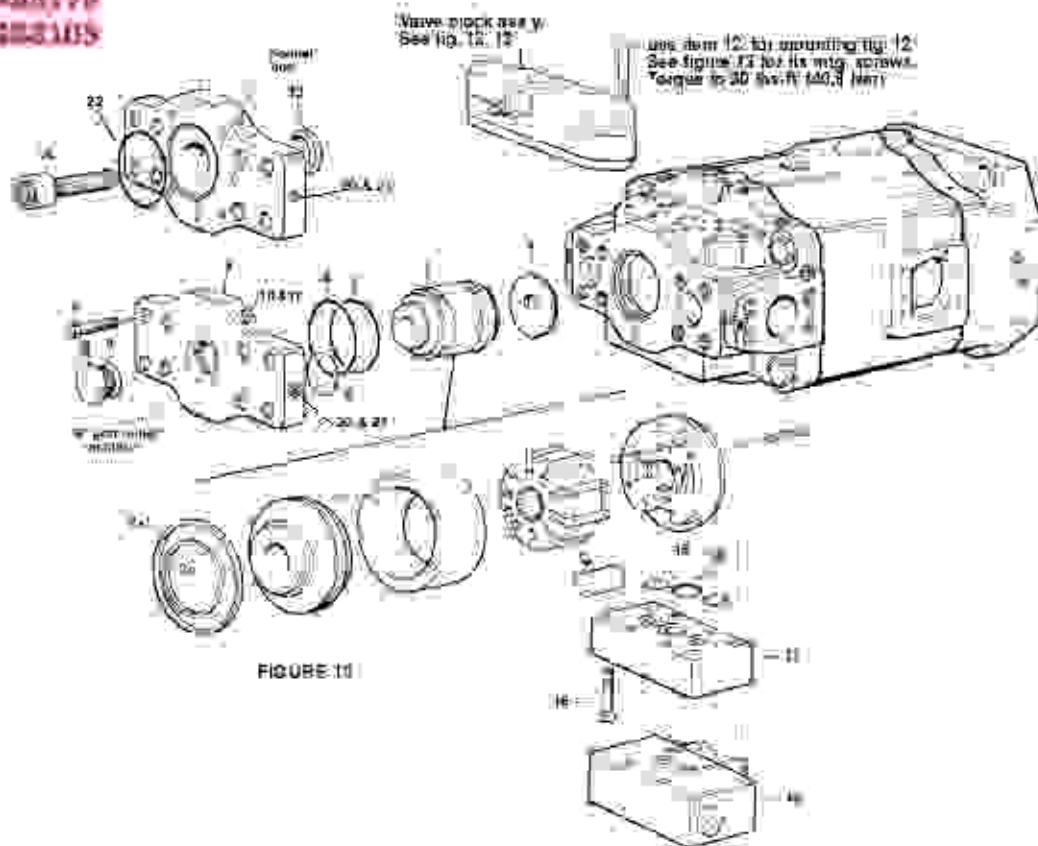

FIGURE 10
See figure 9 & 10. Use special tool T2 and improve an auxiliary shaft and engage the holes in the hold-down adjusting screw (8), figure 10. Carefully tighten until screw bottoms out.
Use a large screw driver with the sides of the blade ground down so it passes along side the aux. shaft and engaged the screw slot. Thread hold-down adjusting screw (8) (7), figure 10 into hold-down adjusting screw. Torque to 30 (lb.-ft. 40.7 Nm)
Barrel hold-down lock (retaining ring) (10), figure 10 over auxiliary shaft into groove which is located 5.512" (140.05 mm) from end of shaft.
See **Figure 10**. Slip sealing washer (1) into bore in port block, over auxiliary shaft and seat at bottom of bore.
Engage pilot of end cover into bore of port block. Refer to figure 10 for (3) port positioning. Align holes and secure with screws (7). Torque to 350 lbs-in (47.43 Nm).
PARTS LIST FOR FIGURE 10
PARTS LIST FOR FIGURE 10 (continued)
See figure 10: A special tool T4 (refer assembly tools) is required to press shaft seal (13) into SAE-B adapter. Place adapter on a clean surface with pilot facing up. Use special tool to drive seal into position. Make certain that the white lip of seal is oriented side to toward inside of the adapter.